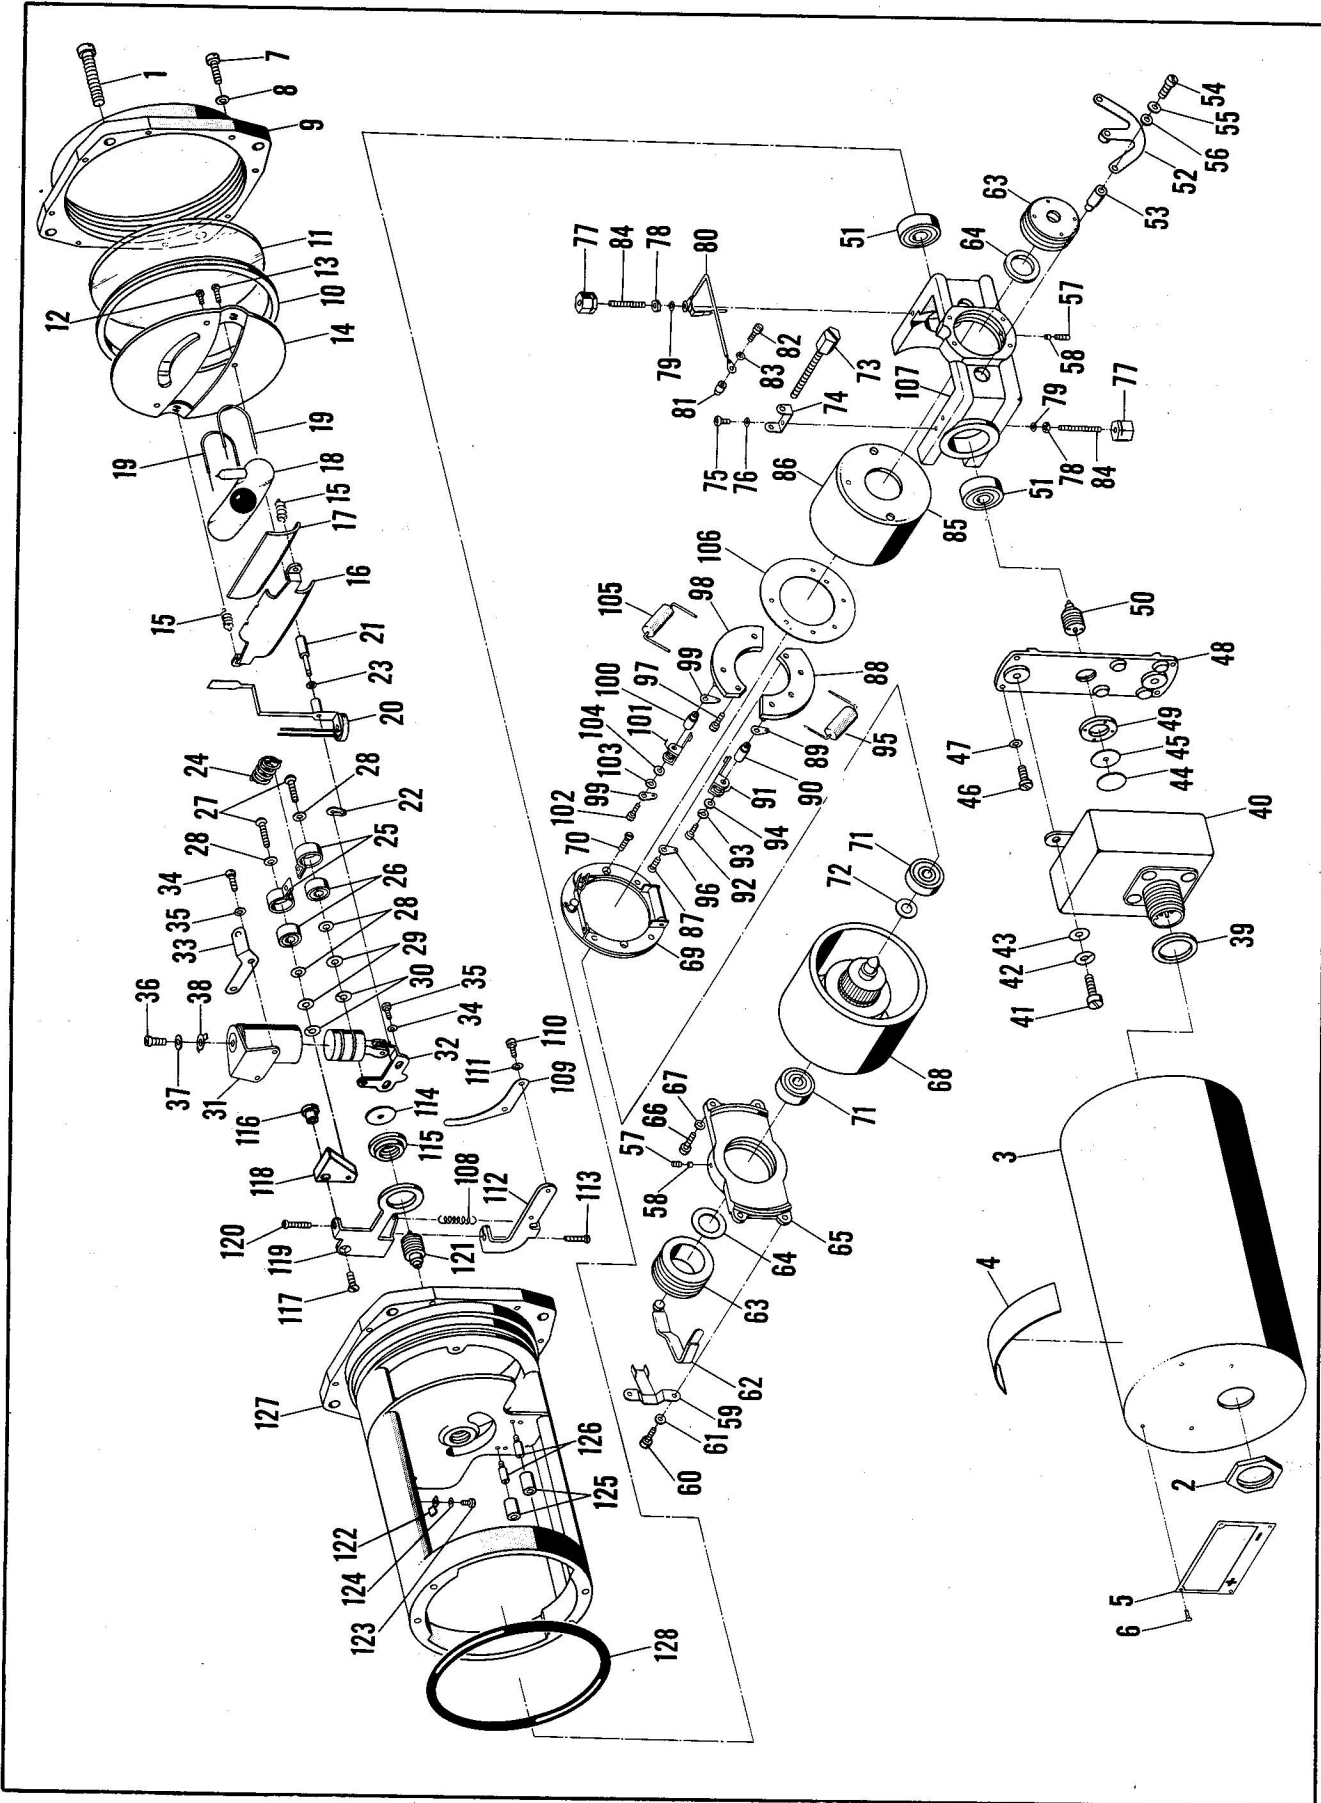
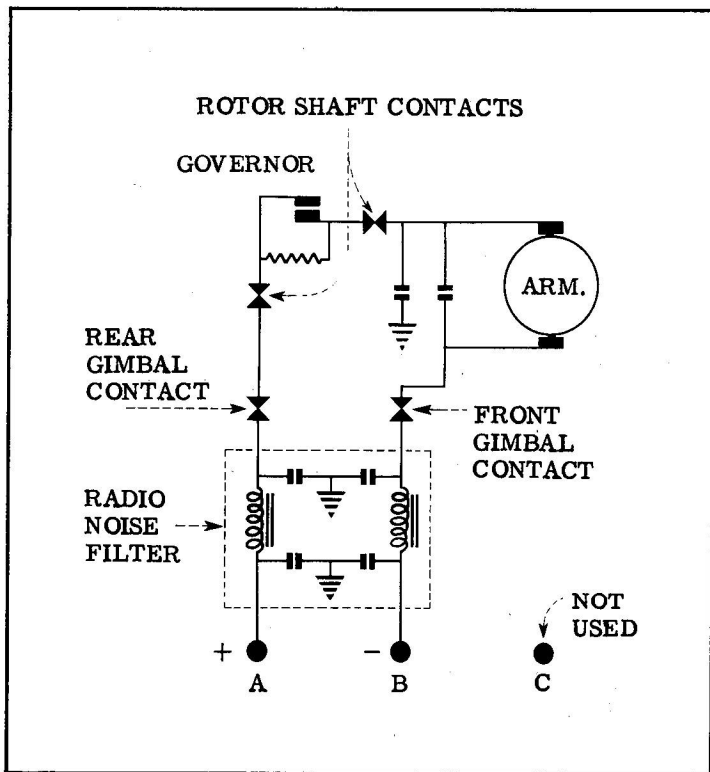

Figure 4-17. Bank and Turn Indicator Assembly, Model B4B-F
Figure 4-18. Wiring Diagram, Model B4B-F
DISASSEMBLY. (See figure 4-17.) Same as Model B4 except that filter assembly (40) replaces individual radio noise filtering components used on Model B4, and insulation (44) is used between insulating washer (45) and the filter assembly. The negative side of the electrical circuit is insulated throughout with insulation (81), and (114), and pivots (90), and (100). Condenser (105) is used between negative brush arm assembly (101) and ground. See figure 4-18 for wiring diagram.
TEST PROCEDURE. Same as Model B4 except that pointer deflections must be within tolerances listed in Table VIII. See figure 4-18 for wiring diagram.
KEY FOR FIGURE 4-17